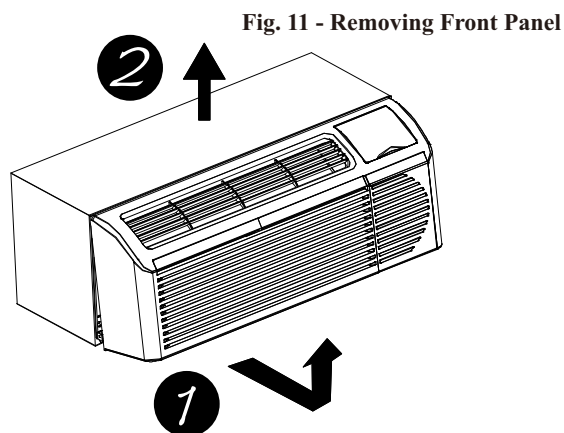

Fig. 11 - Removing Front Panel
3. Remove front panel. See Fig. 11.
1. Remove front panel. See Fig. 11.
To access, remove front panel. See Fig. 11.